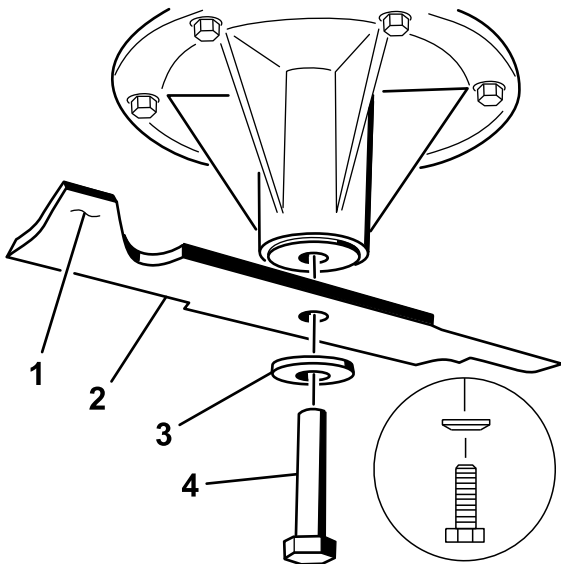

Figure 6
Important: The sail part of the blade (i.e., the turned up section) must face the inside of the mower (Figure 6).
1. Place the blade onto the spindle shaft (Figure 6).
2. Install the spring disk and blade bolt. The spring disk must be installed toward the bolt cone (Figure 6). Torque the blade bolt to 85-110 ft-lb (115-150 N•m).